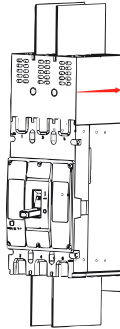

Figure 3
3. After the arcing cover is clamped between the base and the middle cover according to Figure 2, apply force in the direction marked in red according to Figure 3 to move the arcing cover. After installation, proceed as shown in Figure 3